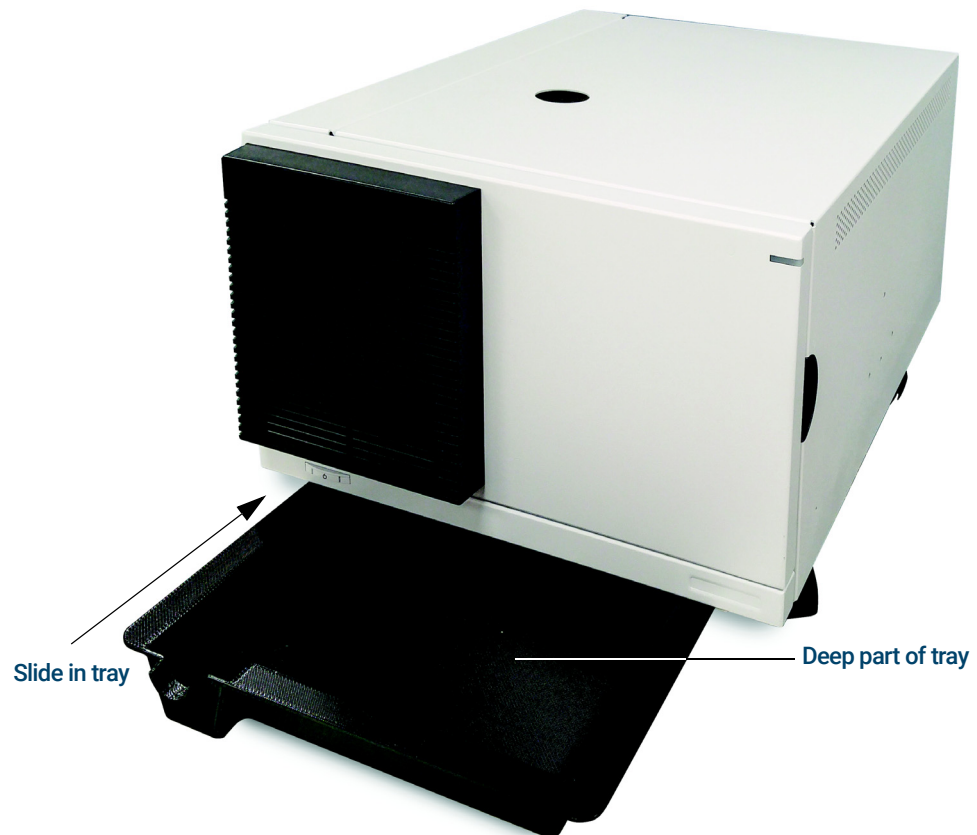

Figure 3. Installing the oil tray
- 2 Slide the tray into the bottom of the Quiet Cover MS with the deep part of the tray facing the front of the Quiet Cover MS. Along the bottom edge of the frame, a pair of rails guides the tray into place (**Figure 3**).